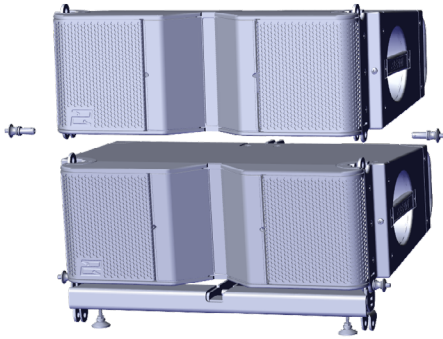

Figure 12
- Place the next module on top of the first NT206L and pin the front locations using the pins on the second cabinet (Figure 12).